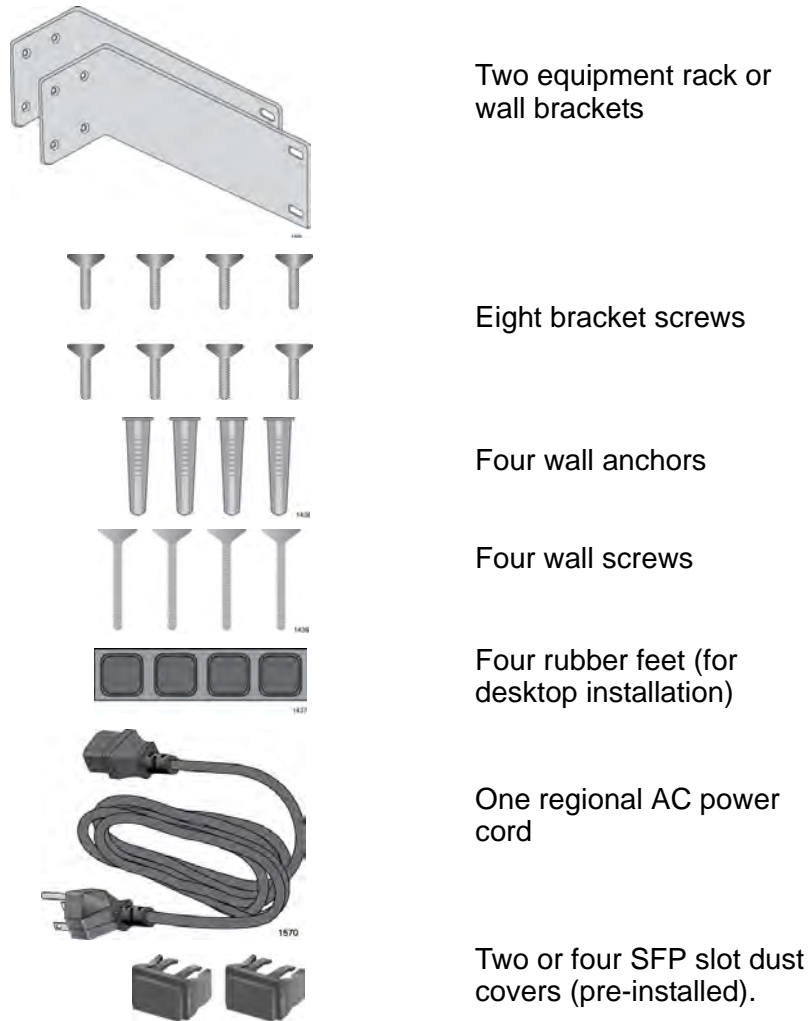

Figure 5. AT-GS950/xx Packing List
3. Verify that the shipping container includes the items listed in Figure 5 on page 30 in addition to your AT-GS950/8, AT-GS950/16, AT-GS950/24 or AT-GS950/48 switch.